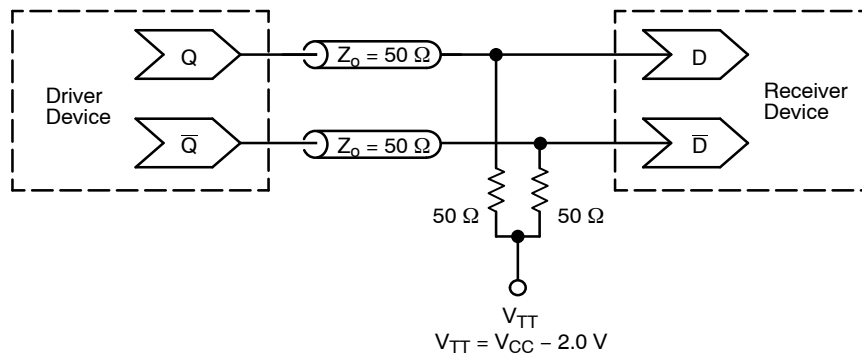

Figure 10. Typical Termination for Output Driver and Device Evaluation (See Application Note AND8020/D – Termination of ECL Logic Devices)
2. All loading with 50  $\Omega$  to  $V_{CC} - 2.0\text{ V}$  (see Figure 10).
2. All loading with  $50\ \Omega$  to  $V_{CC} - 2.0\text{ V}$  (see Figure 10).
1. Measured using a 750 mV source, 50% duty cycle clock source. All loading with  $50\ \Omega$  to  $V_{CC} - 2.0\text{ V}$  (see Figure 10).